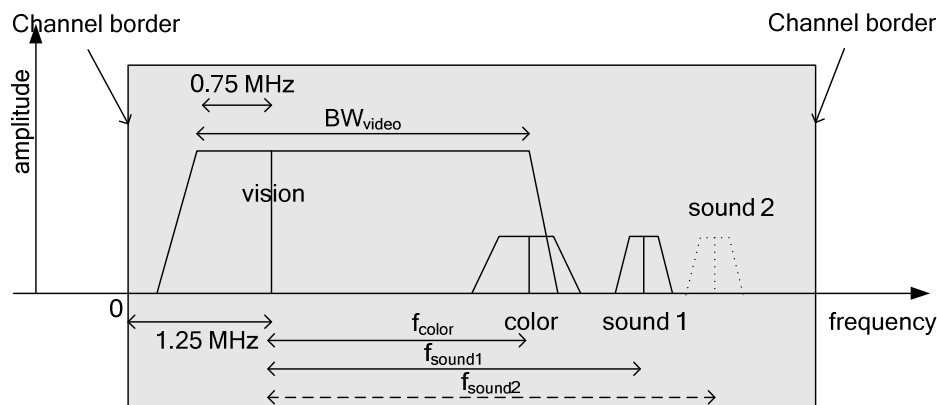

Fig. 2-32 Analog modulated signals in the RF range
For analog modulated TV signals based on PAL, SECAM, and NTSC, Fig. 2-32 shows the situation in principle: the components of the signal, and both frequency and level at the output of a TV transmitter (RF range).
- The vision carrier, indicated in Fig. 2-32 with "vision", is located 1.25 MHz above the channel start. The vision carrier has the highest level and mainly assesses the total power of the channel. It transmits the luminance information and is amplitude modulated. The amplitude modulation is mostly negative (the smaller the luminance signal the larger the vision carrier level), apart from SECAM/L (large vision carrier level combined with a large luminance signal). Only a part (around 0.75 MHz) of the lower sidebands of the vision carrier is transmitted. Therefore it is called "residual sideband modulation". The video bandwidth  $BW_{\text{video}}$  amounts to, depending on the standard, approx. 5 MHz (e.g. PAL B/G) or approx. 4 MHz (e.g. M/NTSC).
- The color carrier, indicated in Fig. 2-32 with "color", is shifted by  $f_{\text{color}}$  to a higher frequency value in respect to the vision carrier. The magnitude of  $f_{\text{color}}$  depends on the standard. The level of the color carrier is by far smaller than that of the vision carrier. Depending on the standard, the signal is analog quadrature amplitude modulated (e.g. PAL B/G) or frequency modulated (SECAM). The color carrier is not considered in the measurements of the Cable TV Measurements option.
- One or two sound carriers, indicated in Fig. 2-32 with "sound 1" and "sound 2", are shifted by  $f_{\text{sound1}}$  or  $f_{\text{sound2}}$  to a higher frequency value in respect to the vision carrier. The magnitude of  $f_{\text{sound1}}$  or  $f_{\text{sound2}}$  depends on the standard. The level of the sound carriers is by far smaller than that of the vision carrier. Depending on the standard, the sound carriers are frequency, amplitude, or NICAM (digitally) modulated. The sound carriers do not need to possess the same modulation. For example, a combination of a frequency modulated carrier with a NICAM modulated carrier is possible.